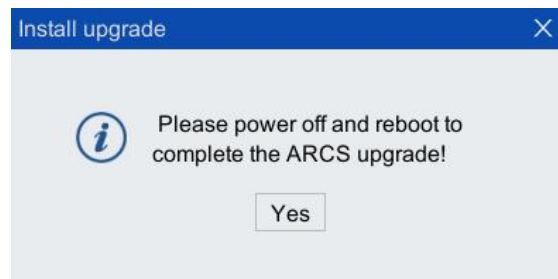

Figure 8-44 "Please power off and restart to complete the ARCS upgrade!" prompt box
- Step4. When "Please power off and reboot to complete the ARCS upgrade!" dialog box in Figure 8-44 pops up, click <Yes> button to restart the control cabinet to complete the ARCS upgrade.